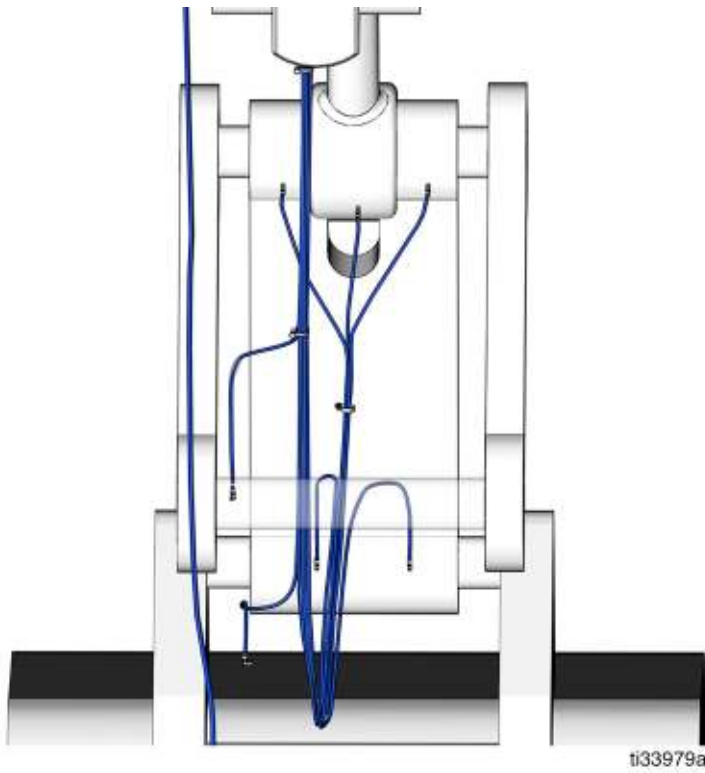

FIG. 27: Bottom View
- See FIG. 20 through FIG. 27 for hose routing examples.